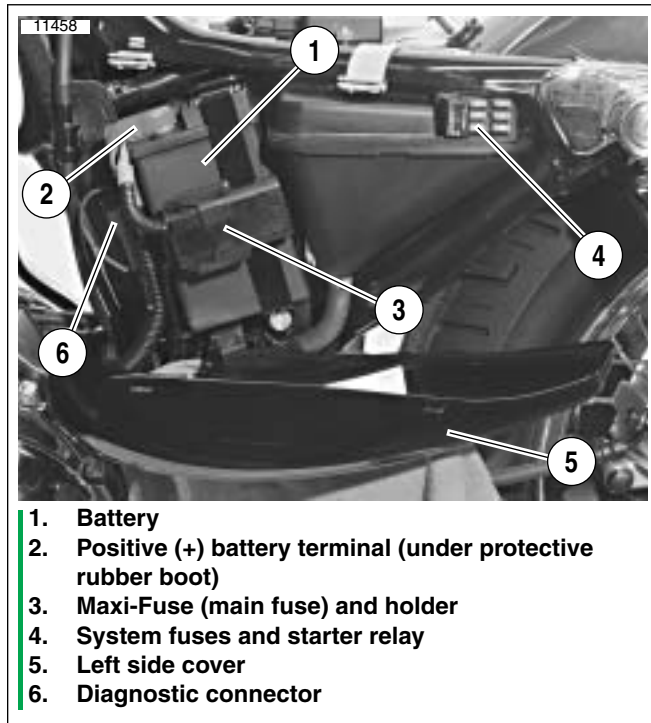

Figure 1-9. Maxi-Fuse and Battery Location
See Figure 1-9. The left side cover (5) provides access to the battery (1), fuses (3, 4) and diagnostic electrical connector (6). No tools are required to open or close the cover.